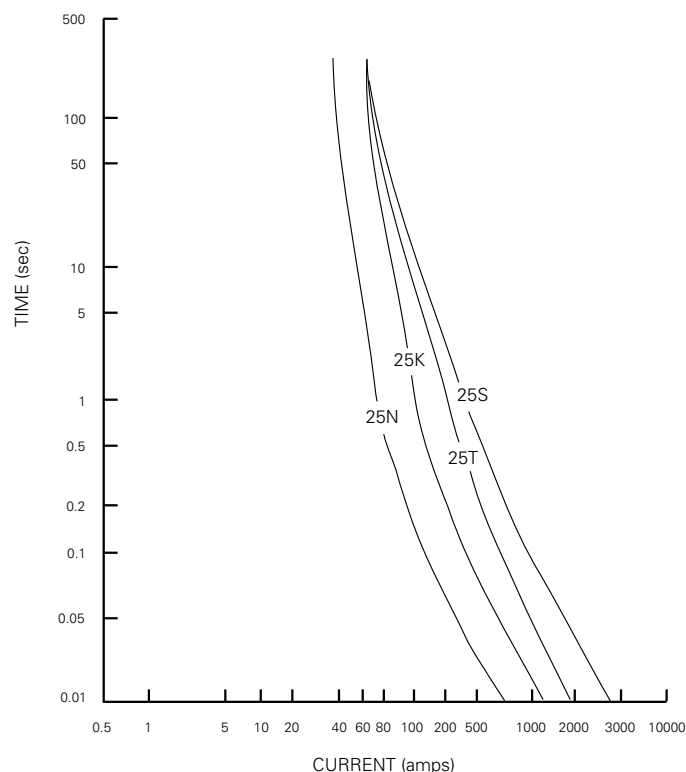

Figure 30. Edison link speed comparisons
① **Figure 30** compares the speed ratio of Type K, Type N, Type T, and Type S Edison links.